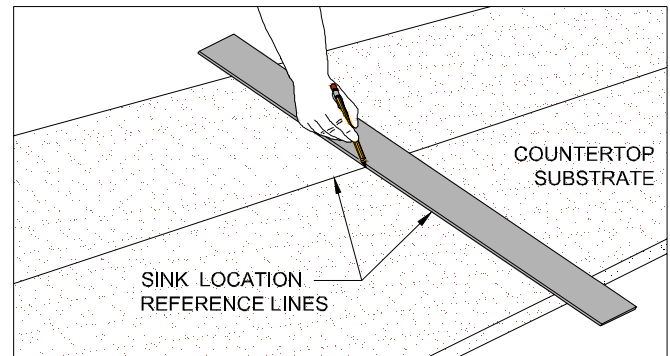

Figure 9A
- Locate where sink is to be installed on the substrate and draw reference lines. (FIG. 9A)